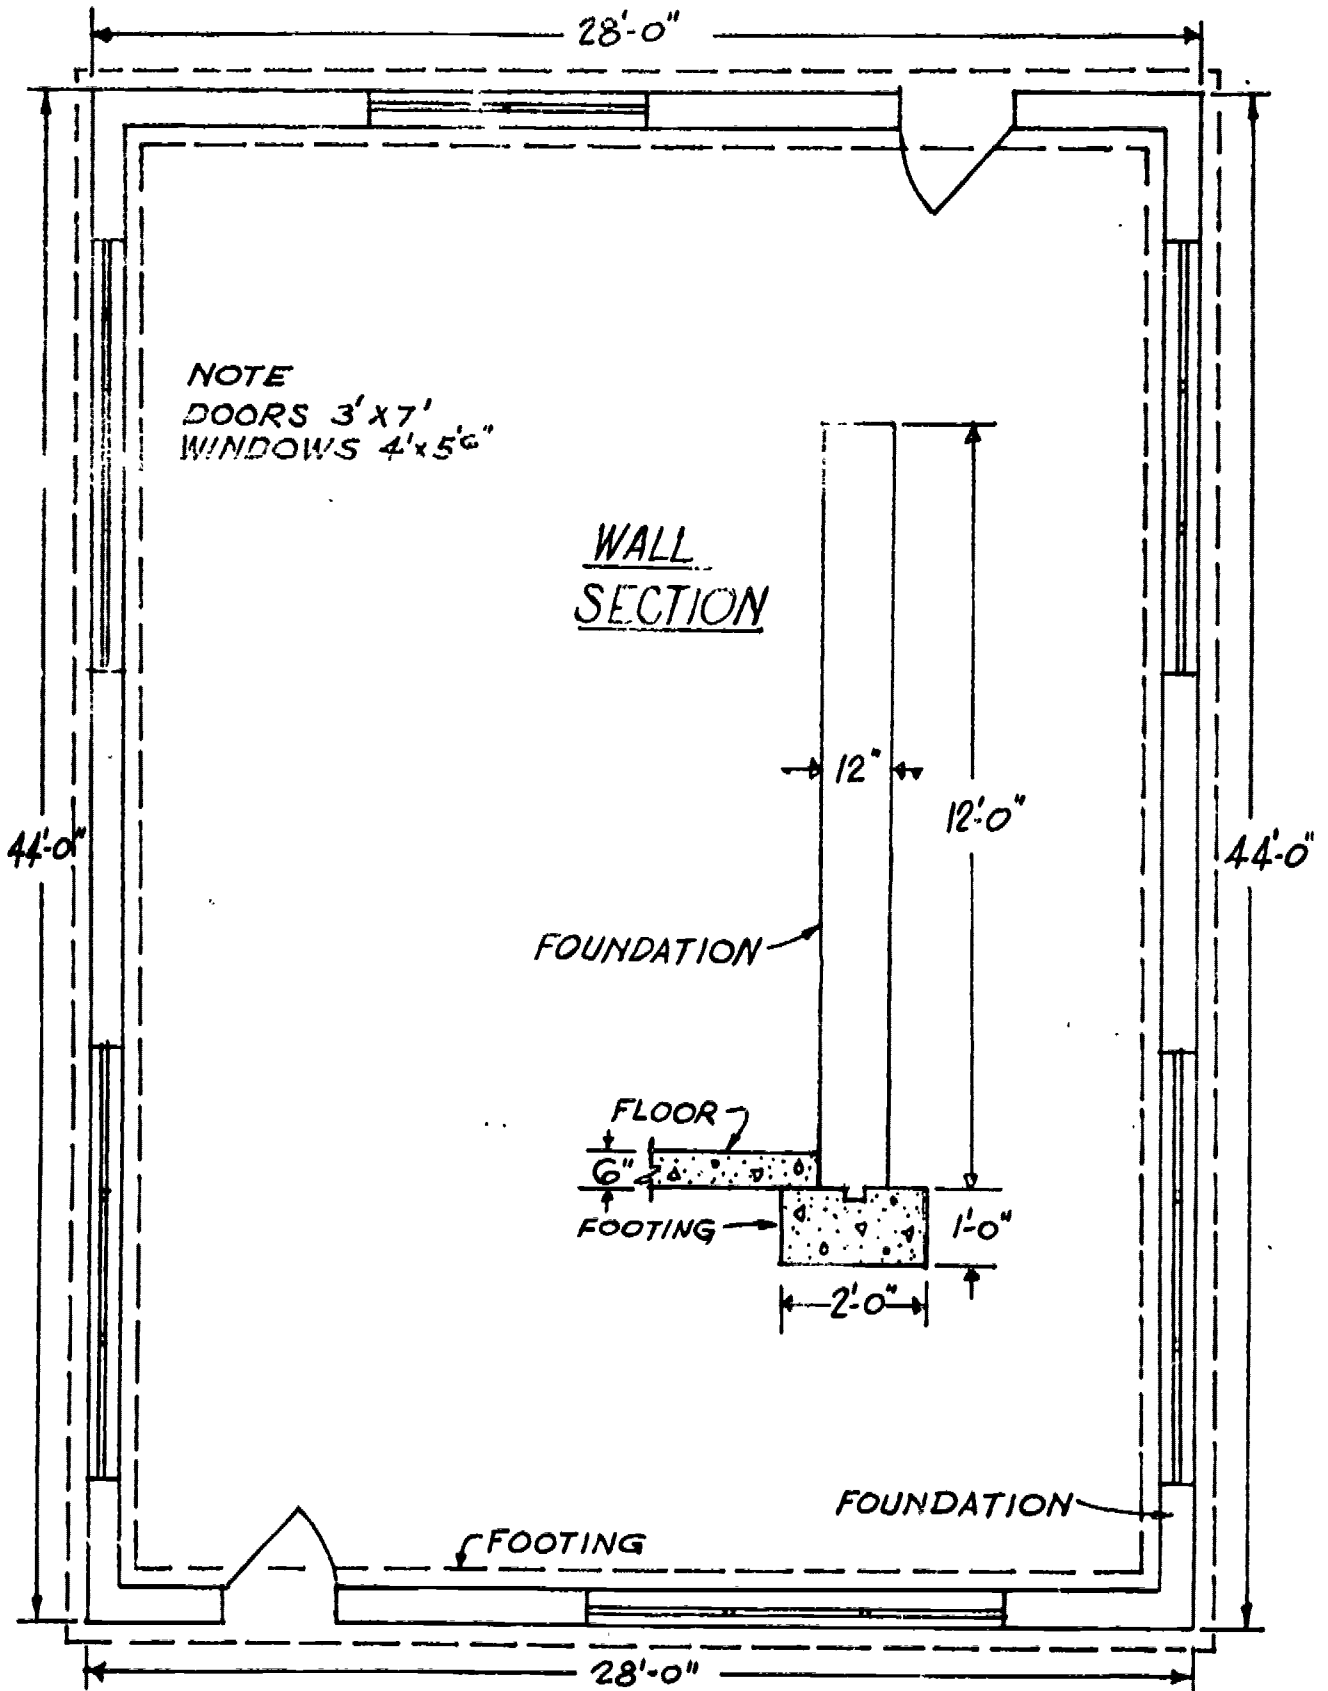

Figure 1
5. View information sheet and figure 1, brick estimating, in this task package for examples.